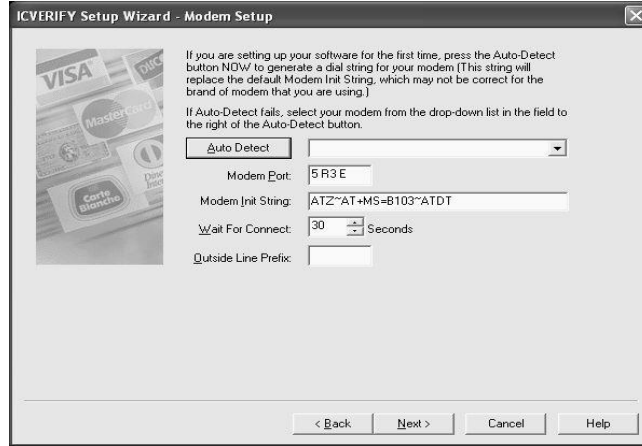

Figure 4.0.3-1: Modem Setup
- 42. Stop once you reach the “Modem Setup” screen (see **Figure 4.0.3-1** below).